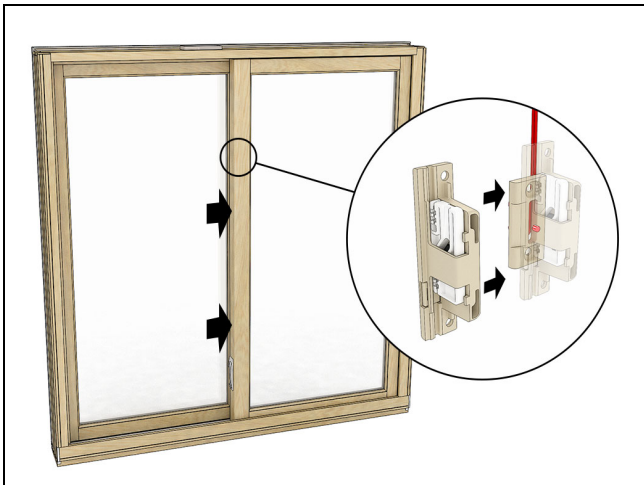

Figure 19
1. Close the operator sash until the auto-lock activates. The magnet in the latch bolt will align with the lock status sensor once the bolt is locked. The sensor will indicate a closed and locked status. See Figure 19.